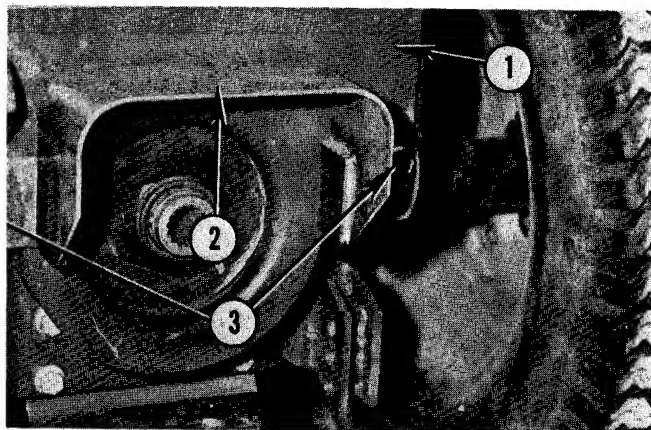

Fig. 13A — PTO Shield Installation
A rear PTO shield (Accessory item), Fig. 13A, is available and must be installed before operating any attachment that requires rear PTO drive. Except tiller which has PTO shield on its gear box.
2. Install PTO shield, No. 2, Fig. 13A, to rear PTO cover, No. 1, using 3/8" x 7/8" Hex Head bolts, No. 3.